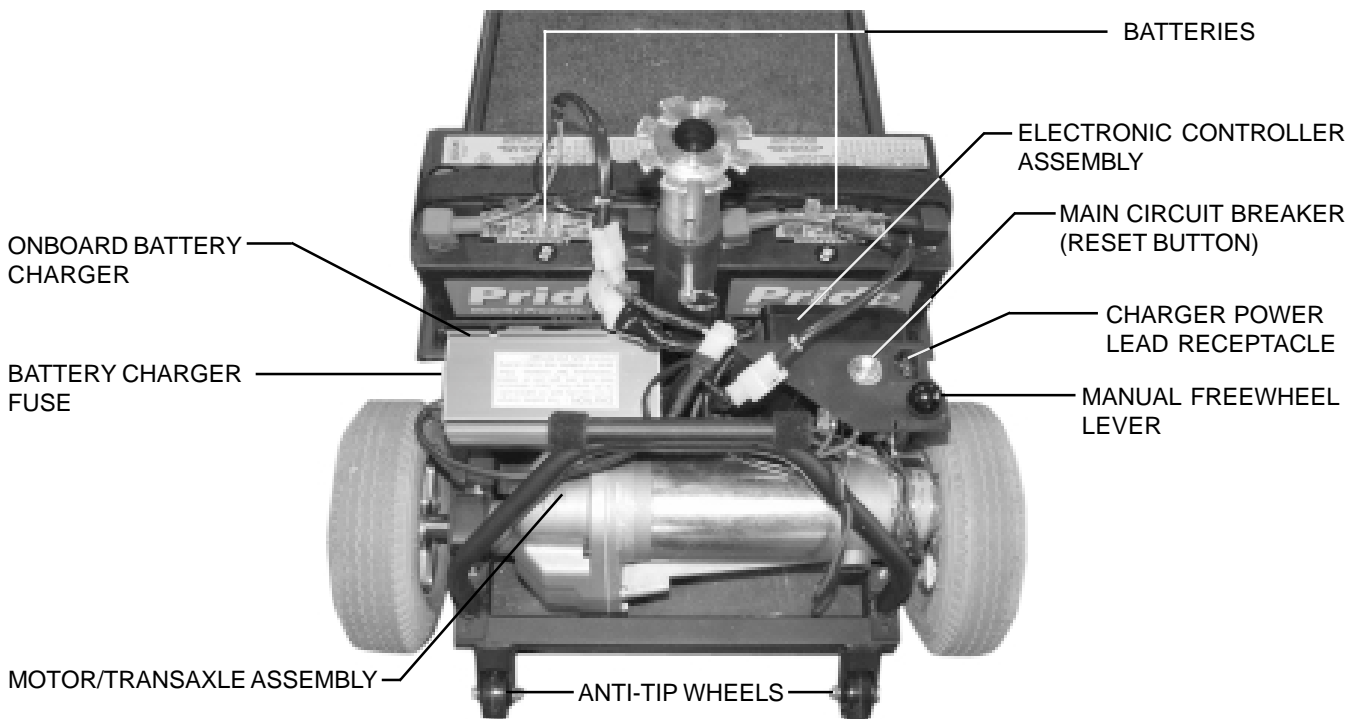

Figure 7. Rear Section
The onboard battery charger, the charger power lead receptacle, the battery charger fuse, the batteries, the electronic controller assembly, the main circuit breaker, the manual freewheel lever, and the motor/transaxle assembly are located on the rear section of your scooter. See VIII. “Disassembly and Assembly” for instructions on removing the rear shroud. The anti-tip wheels are at the rearmost part of your scooter. See figure 7.
- The charger power lead plugs into the battery charger by means of a receptacle located on the rear section of your scooter, near the manual freewheel lever and the main circuit breaker reset button. See figure 7.
- The main circuit breaker is mounted on the rear section of the scooter, near the manual freewheel lever. See figure 7.
- The manual freewheel lever is located on the end of the motor/transaxle assembly at the left rear of the scooter, and extends through the rear shroud. See figure 7.
The motor/transaxle assembly consists of a geared transmission and differential. This one piece, direct drive, fully sealed assembly provides quiet operation with maximum power and long life. See figure 7.